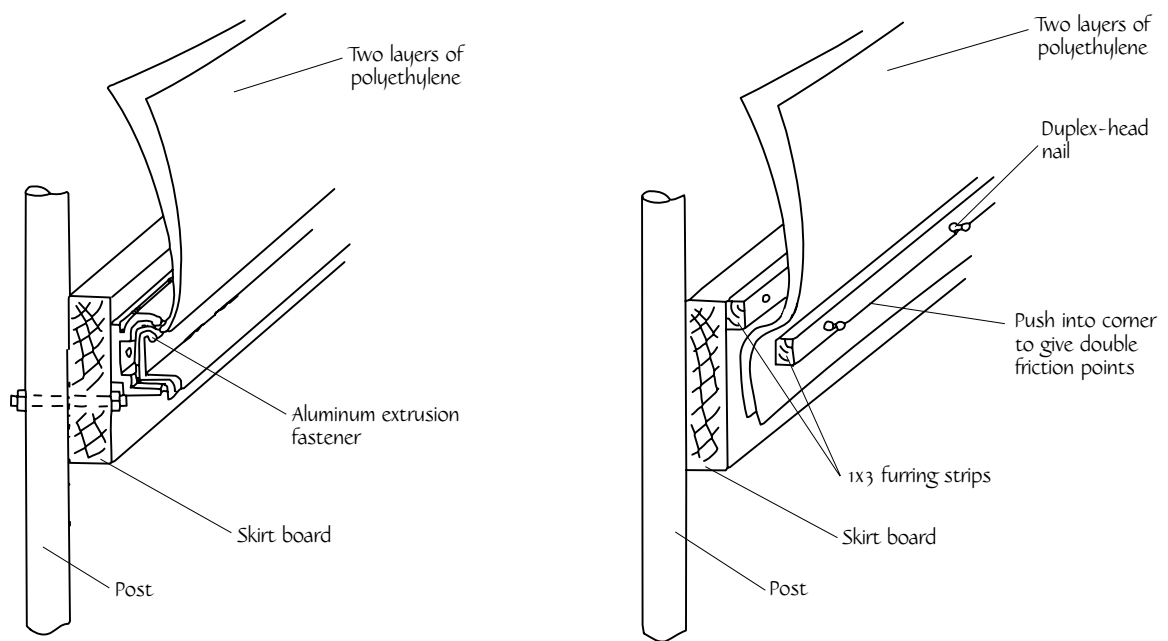

Figure 4-12. Common methods of anchoring polyethylene
- Attach the aluminum extrusions with bolts all the way through the frame member. Furring strips should be attached with #8d nails (figure 4-12).